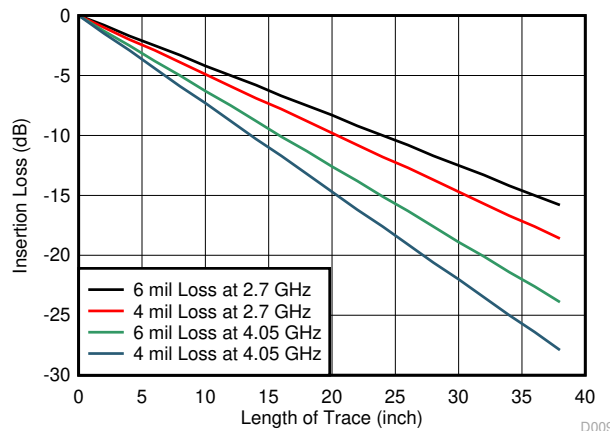

Figure 8-5. Insertion Loss of FR4 PCB Traces
- Determine the loss profile on the DisplayPort input (A) and output (B) channels. See Figure 8-5 for 6mil trace insertion loss.
- Determine the loss profile on the DP input (C) and output (D) channels and cables. See Figure 8-5 for 6mil trace insertion loss.